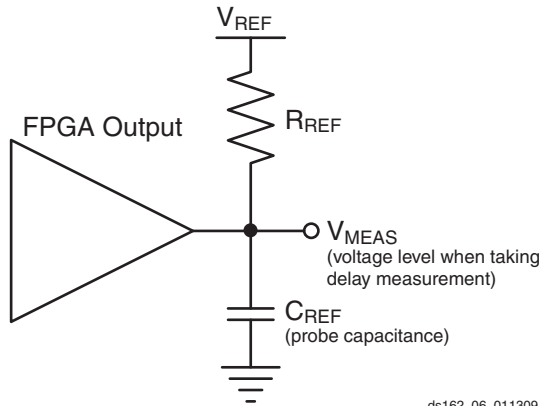

Figure 4: Single-Ended Test Setup
4. This is an input voltage reference that bears no relation to the V_{REF} / V_{MEAS} parameters found in IBIS models and/or noted in Figure 4.
Output delays are measured using a Tektronix P6245 TDS500/600 probe (< 1 pF) across approximately 4" of FR4 microstrip trace. Standard termination was used for all testing. The propagation delay of the 4" trace is characterized separately and subtracted from the final measurement, and is therefore not included in the generalized test setups shown in Figure 4 and Figure 5.